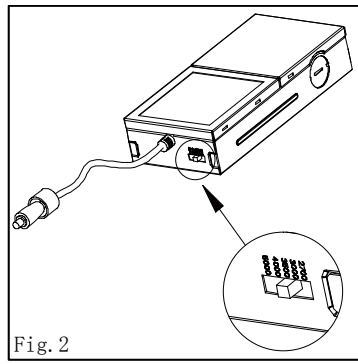

Fig. 2
2. Use the toggle switch to select your desired lamp color temperature, 2700K/3000K/3500K /4000K/5000K. (Fig.2)